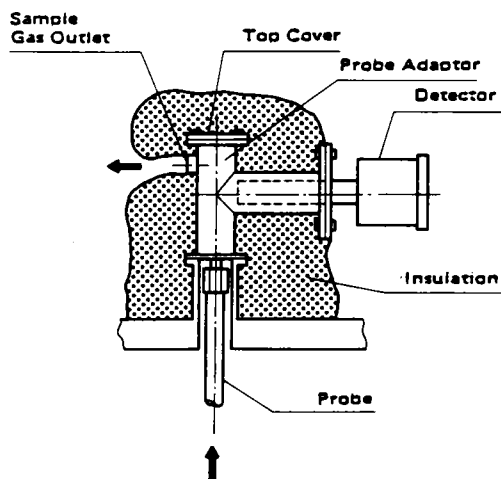

Figure 5.4 Installing the High Temperature Detector
- b. If the sample gas temperature around the sample gas outlet is less than 356 Deg. F (180 Deg. C) then the detector housing needs to be covered with ceramic fiber insulation to prevent sample gas condensation inside the detector housing---see Figure 5.4.